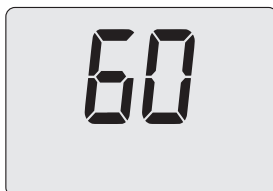

Fig. 8.24
- Press the keys 14, until the value of parameter P03 on the LCD display (Fig. 8.24).